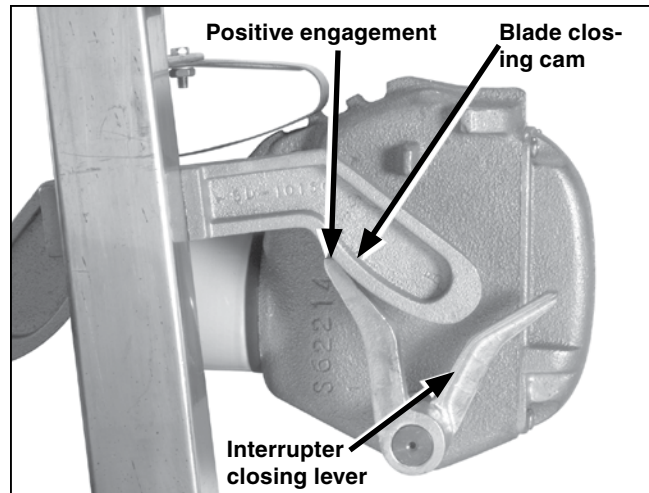

Figure 47. Blade assembly moving in the closing direction.
- (a) As the blade assembly moves in the closing direction, each blade-closing cam must make positive engagement with its respective interrupter closing lever. See Figure 47.